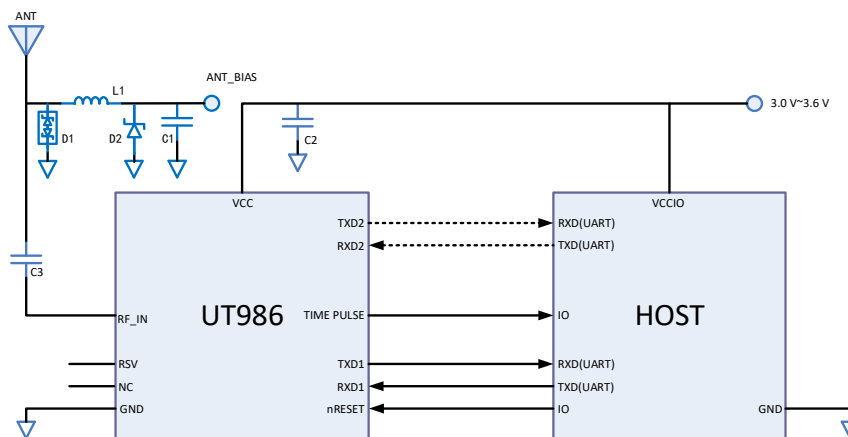

Figure 4-2 UT986 Reference Circuit
- It is recommended to use the same power supply for the VCC of UT986 and the IO of the host, so as to avoid abnormal startup caused by the IO leakage between UT986 and the host. The power supply of UT986 VCC ranges from 3.0 V to 3.6 V, and the input decoupling capacitor C2 (see Figure 4-2) needs to be more than 10  $\mu\text{F}$ . Other capacitors, such as 1  $\mu\text{F}$ /100 nF/ 100 pF, can be connected in parallel.